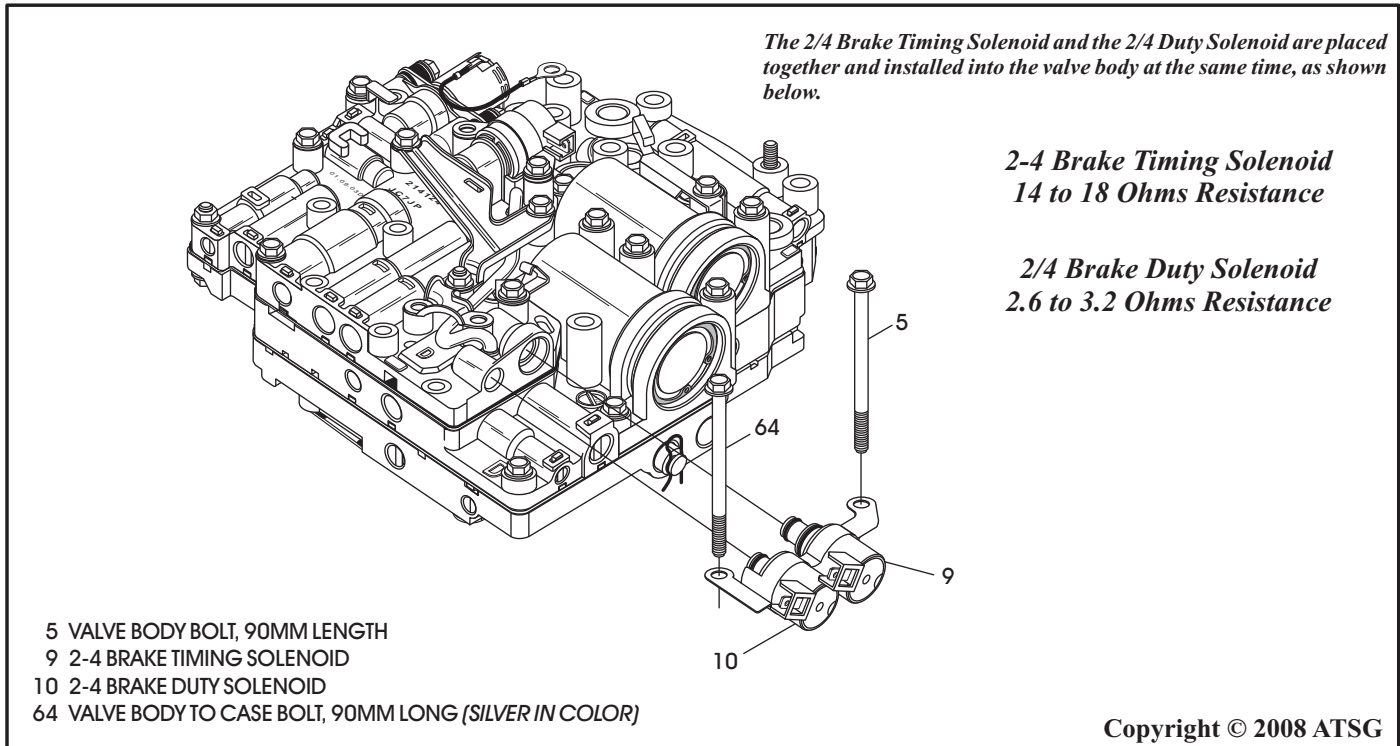

Figure 112
59. Install new "O" ring on 2-4 brake duty solenoid and lube with ATF (See Figure 112).
60. Install 2 new "O" rings on the 2-4 brake timing solenoid and lube with ATF (See Figure 112).
61. Assemble the 2-4 brake duty solenoid onto the 2-4 brake timing solenoid, and install both pieces as an assembly into the valve body, as shown in Figure 112.
62. Install one 90mm gold bolt (5), and one 90mm silver bolt (64) for alignment purposes only, as shown in Figure 112, and torque the gold bolt to 10 N·m (88 in.lb.).